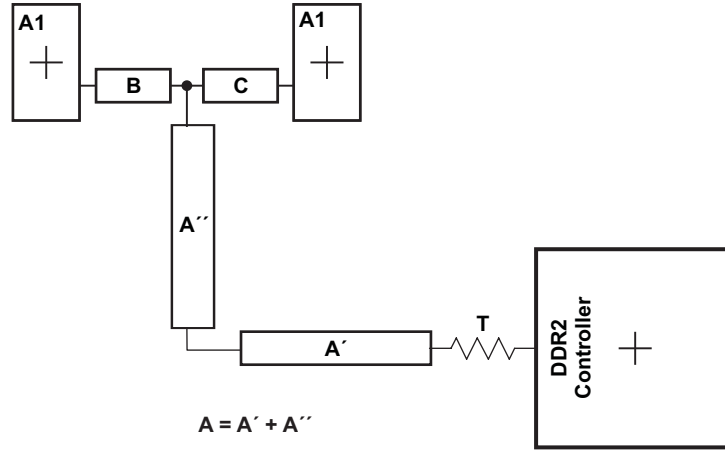

Figure 8-52. CK and ADDR\_CTRL Routing and Topology
Figure 8-52 shows the topology of the routing for the CK and ADDR\_CTRL net classes. The route is a balanced  $T$  as it is intended that the length of segments B and C be equal. In addition, the length of A ( $A'+A''$ ) should be maximized.
- (1) The length of segment  $A = A' + A''$  as shown in Figure 8-52.
- (2) Series terminator, if used, should be located closest to the DSP.
- (3) Center-to-center spacing is allowed to fall to minimum ( $w$ ) for up to 500 mils of routed length to accommodate BGA escape and routing congestion.
- (4) CACLM is the longest Manhattan distance of the CK and ADDR\_CTRL net classes.